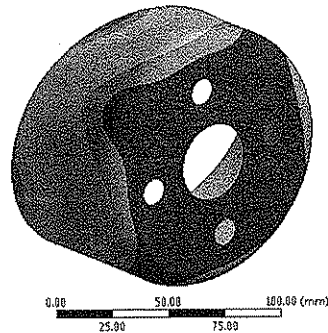

Figure 10-49 Second mode shape displayed in the Graphics screen
7. Similarly, select **Total Deformation 2** from the Tree Outline; second mode shape is displayed in the Graphics screen, as shown in Figure 10-49.